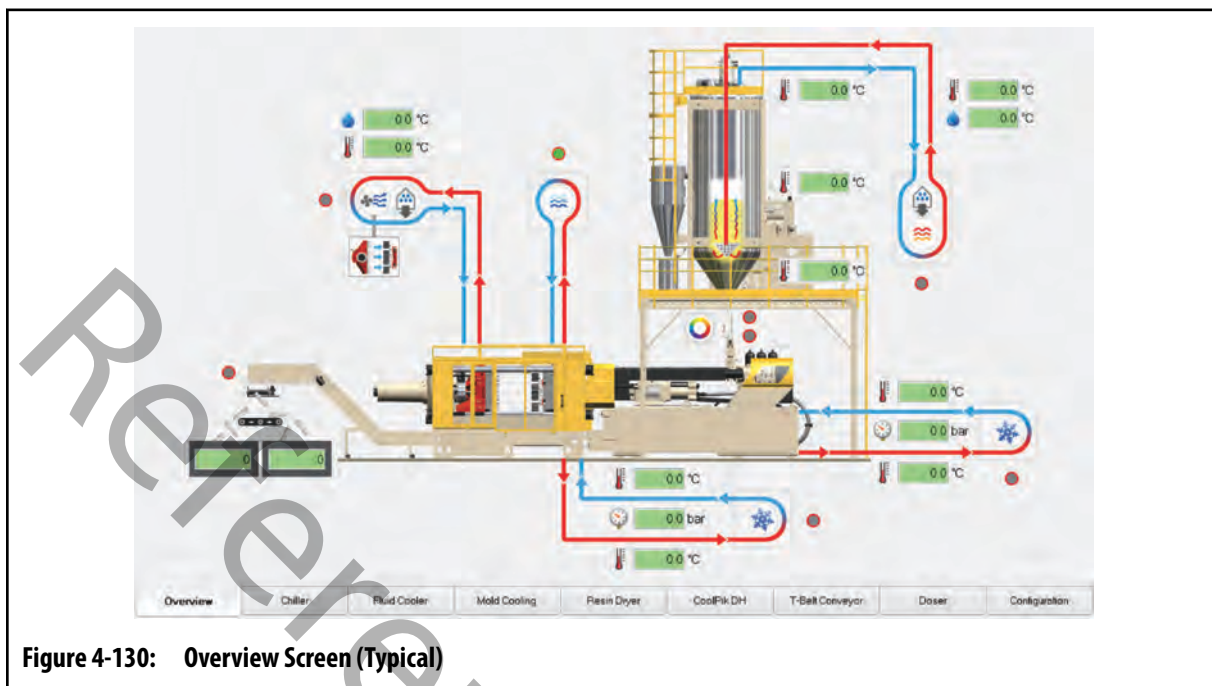

Figure 4-130: Overview Screen (Typical)
1. On the HMI, press the **Auxiliaries** button, and then touch the **Overview** tab to open the **Overview** screen. Refer to Figure 4-130.